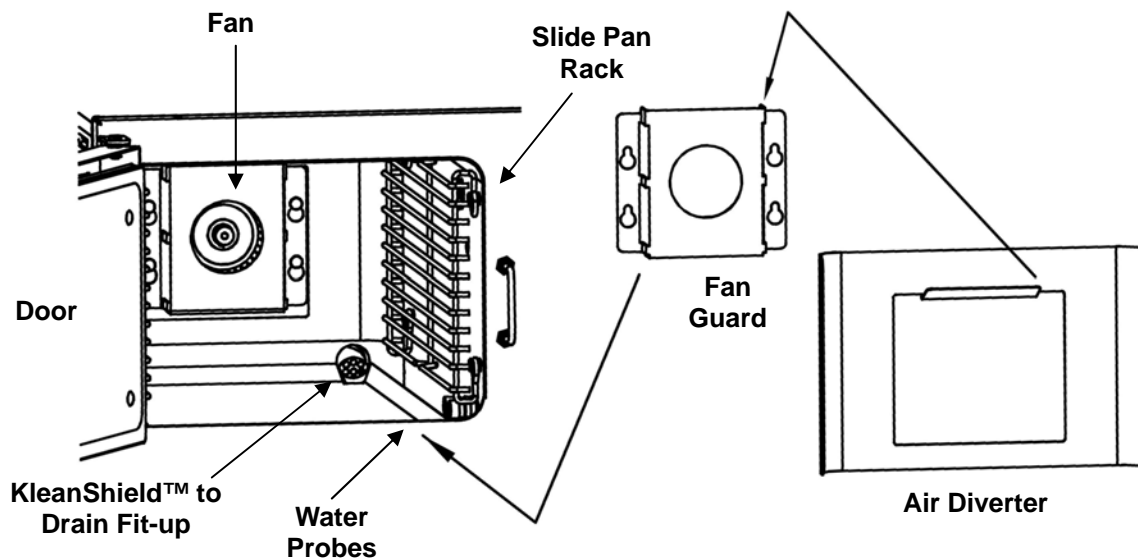

Figure 3-9
Note: See Figure 3-9.
- 3) Pull it down so that the narrow ends of the slots are pulled tight over the mounts. See Figure 3-9.
1. Each slide rack has four loops: two at the top and two at the bottom. Hold the slide rack so the ends of the hanger loops are towards the cooking compartment wall, as shown in Figure 3-9.